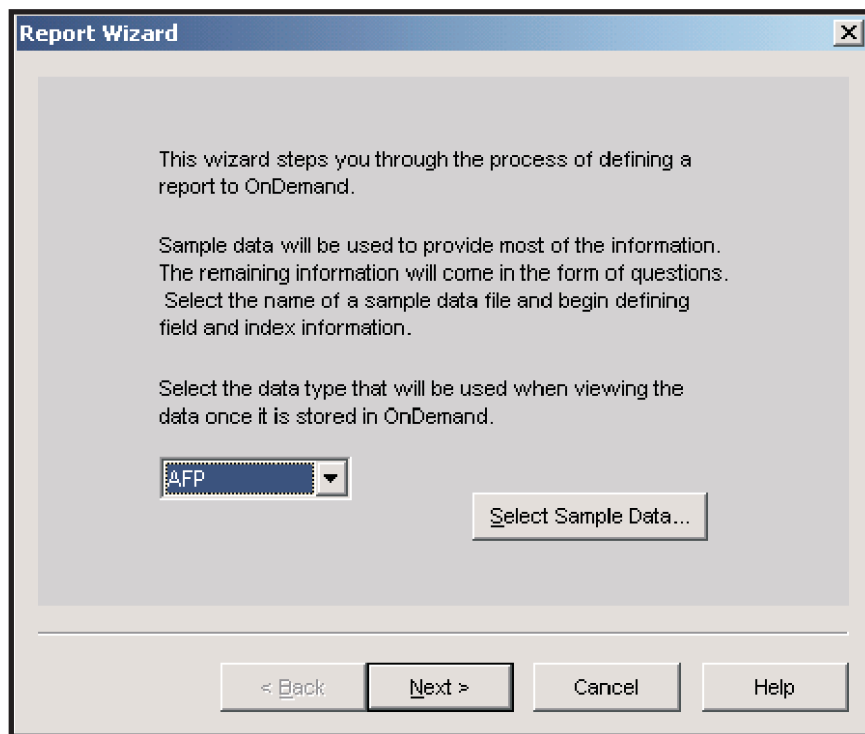

Figure 188. Starting the CM OnDemand Report Wizard
1. Identify the type of spooled file data you are defining. In our Super Sun Seeds example, we choose AFP, as shown in Figure 188. CM OnDemand can store other data types as well, such as SCS, SCS-extended, Line, PDF, and “user-defined” data.